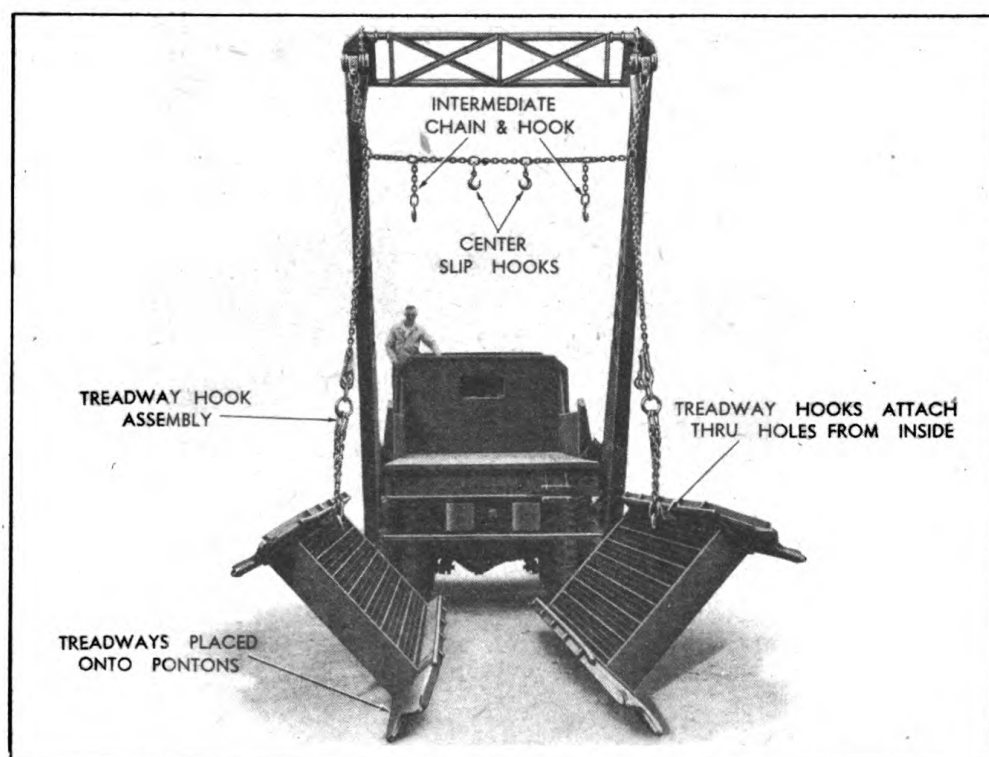

Figure 24. Method of Lowering Treadways onto Pontons
(1) To unload the bridge treadways directly to the saddles on the pontons, use the procedure described in Paragraph *b.*, pages 18 and 21, with the following exception. It is necessary to lower the treadways to a horizontal position by **ATTACHING THE LOWER TREADWAY HOOKS TO THE INNER SIDES OF THE TREADWAYS** as shown in Figure 24. This permits lowering the treadway slowly to the saddle, thus preventing any damage.
(2) For properly spacing the treadways on the pontons, repeat the operation described in Paragraph C, Pages 21 and 23.